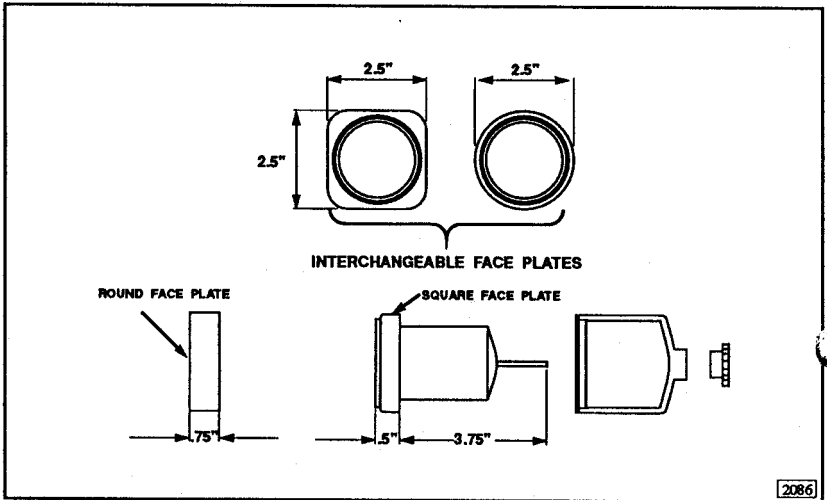

Figure 3. Depth Sounder Dimensions
| Figure 3. Depth Sounder Dimensions | 6 |
The instrument can be easily installed in different types of instrument panels. Refer to Figures 3, 4, and 5 for the following steps.
- The space behind the instrument panel must have a depth of at least 3.75 inches. See Figure 3 for dimensions of the instrument.